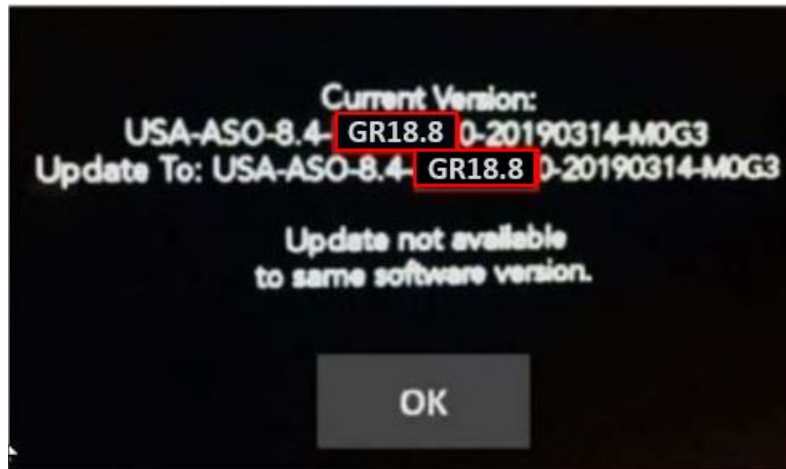

Fig. 5
11. If the radio software is already up to date, the screen in (Fig. 5) will be displayed. Press “OK” and remove the USB flash drive.